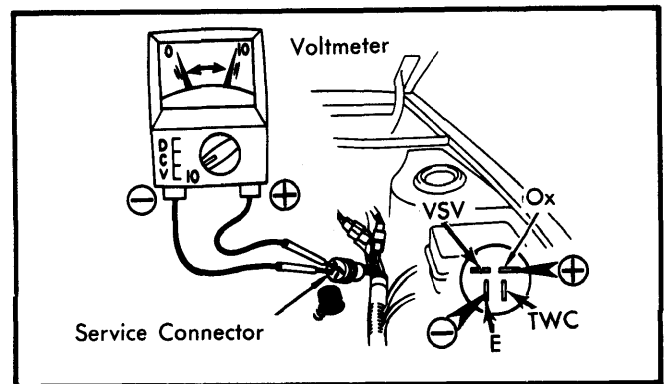

Fig. 9 Oxygen Sensor Test Connections
1) Warm up engine to normal operating temperature. Connect a voltmeter to service connector by attaching positive probe to "Ox" terminal and negative probe to "E" terminal. See Fig. 9.